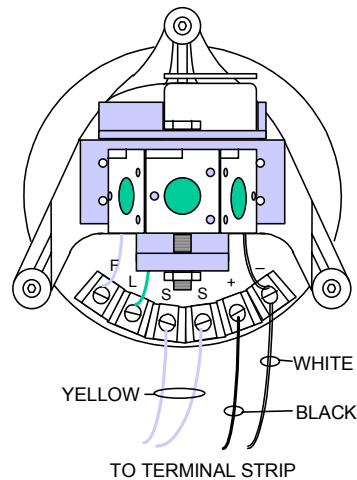
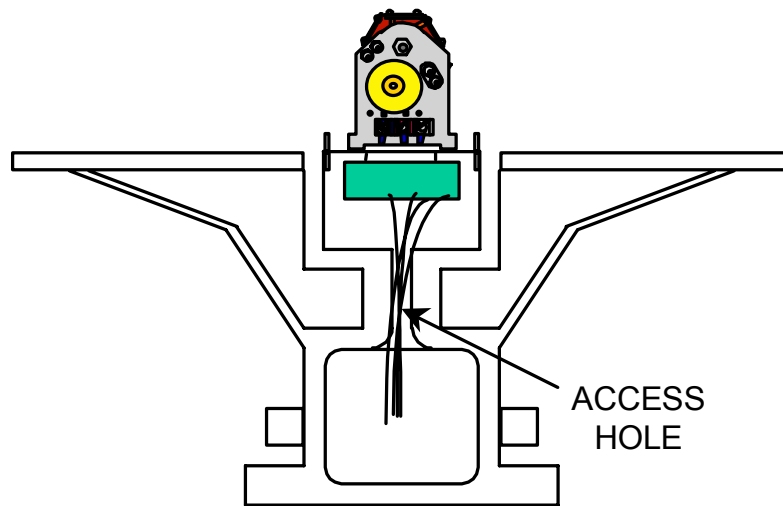

Figure 3-26
Figure 3-27
- (15) Attach the leads to the flasher as shown in Figure 3-26.
- (16) Make sure the springs are still in place in the flasher housing (inside beacon).
- (17) Pass the four wires from the flasher through the opening in the bottom of the flasher housing and pull the leads in the beacon base as the assembly is lowered, as shown in Figure 3-27.
- (18) Screw the Lampchanger Plate to the Flasher Housing with the 3 capscrews. The filament support shadow should face the non-critical area. Do not tighten capscrews.
- (19) Cut excessive wire from the flasher (leave enough to easily work on the Terminal Plate and strip  $\frac{1}{4}$  inch from each lead).